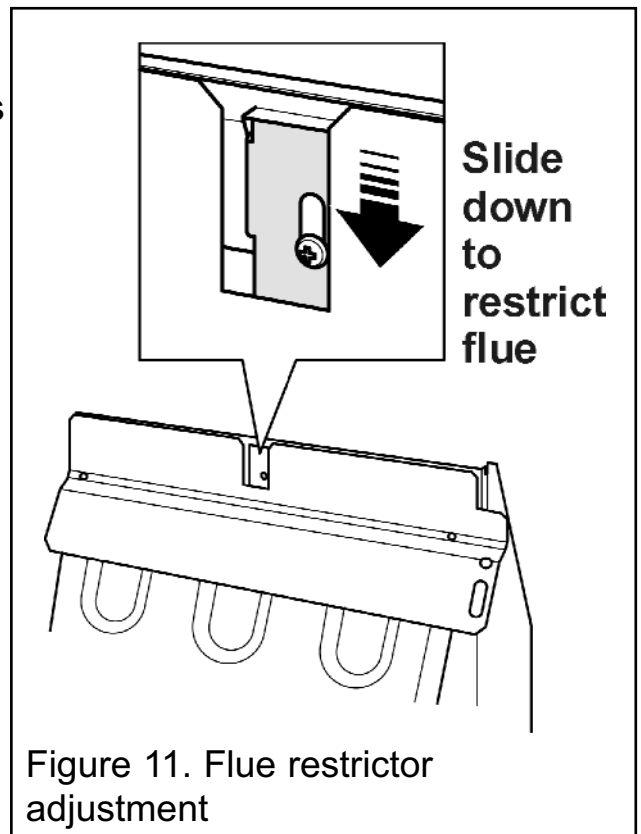

Figure 11. Flue restrictor adjustment
(See figure 11).
1. Loosen the screw situated behind the cut-out in the black upper heat shield. Do not fully remove the screw (See figure 11).